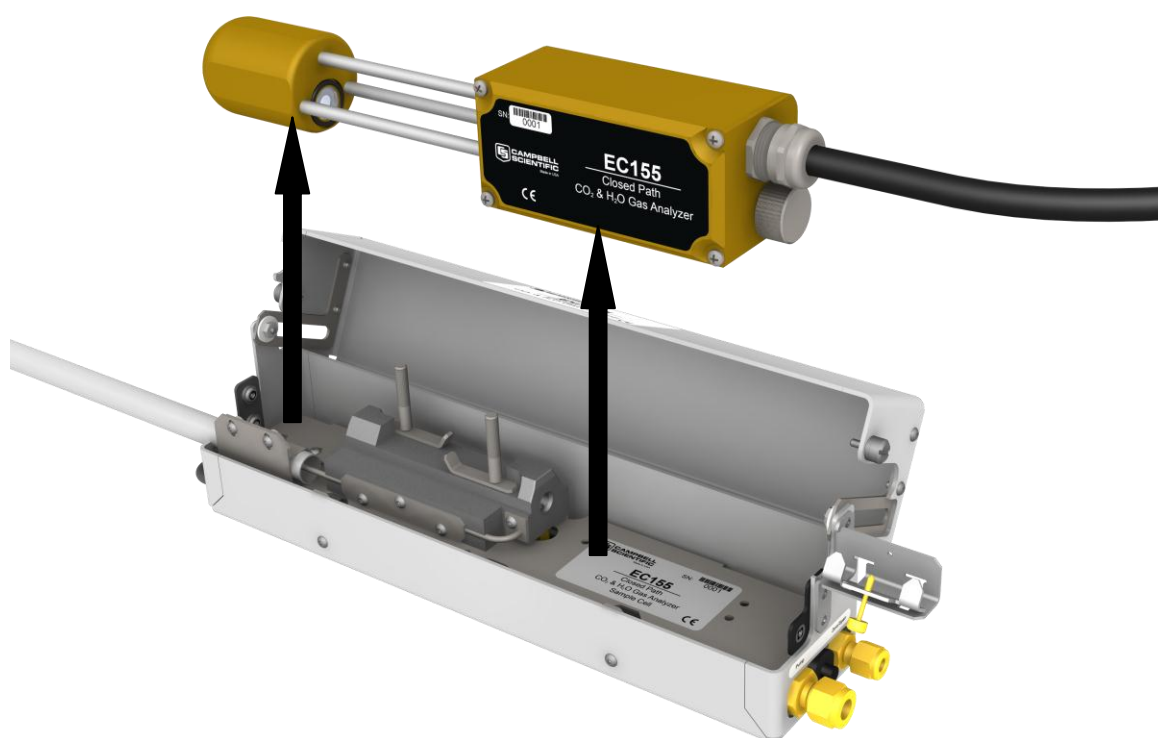
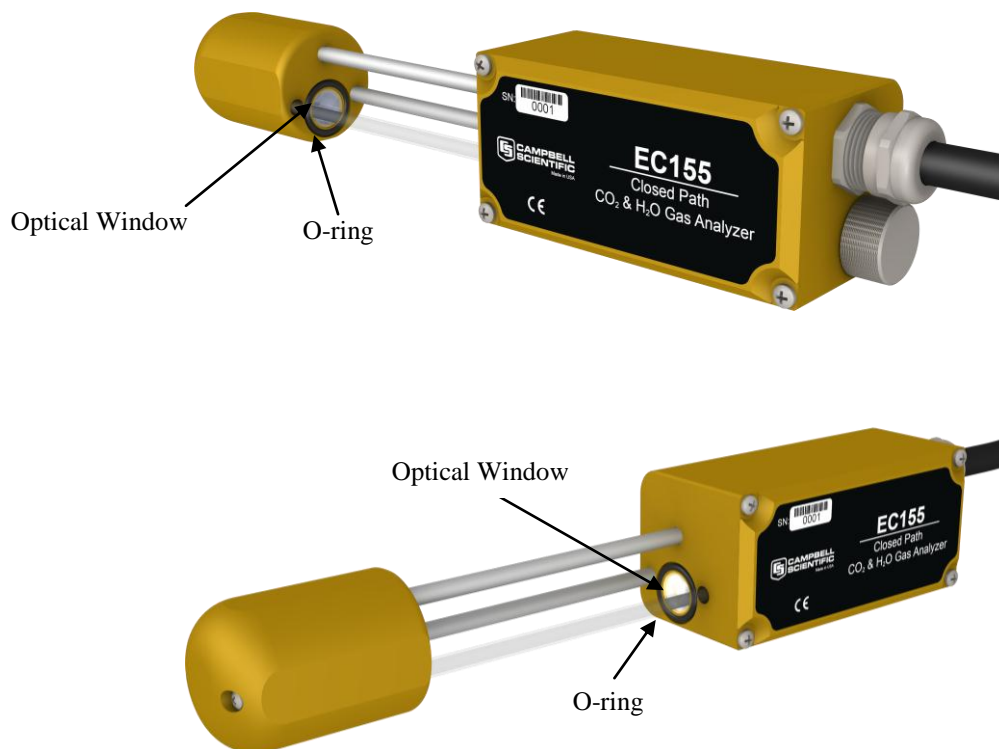

Figure 9-4. The EC155 analyzer and sample cell with shell top open
Figure 9-5. Analyzer removed from sample cell and shell
- d. Lift the analyzer head off the sample cell (see Figure 9-4), taking care not to lose the O-rings (# 26212) surrounding the optical windows (see Figure 9-5). If an O-ring is lost, two replacement O-rings may be found in the mesh pocket of the EC100 enclosure, or new ones may be ordered.